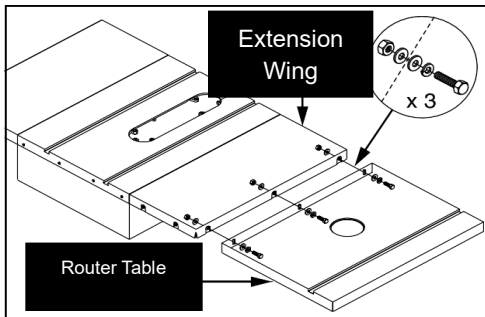

Figure 5: Attach the Router Table to the Band Saw's Extension Wing
1. Position the seven (7) mounting brackets into the designated pockets on the underside of the router table wing.
2. Secure each bracket using fourteen (14) M5.5 × 13 tap screws, as illustrated in Figure 5.
(Refer to Figure 5 for proper orientation and hardware placement.)
(Refer to Figure 5 on Page 10.)